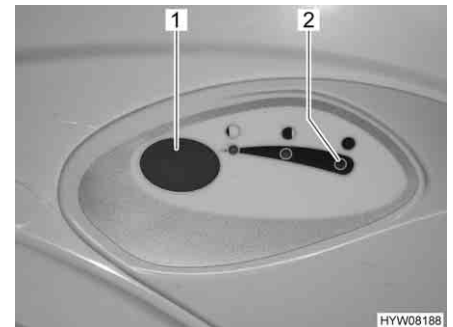

Fig. 227 Flush button/indicator lamp
- For flushing, press the blue flush button (Fig. 227,1).
The indicator lamp (Fig. 227,2) lights up whenever the sewage tank has to be emptied.